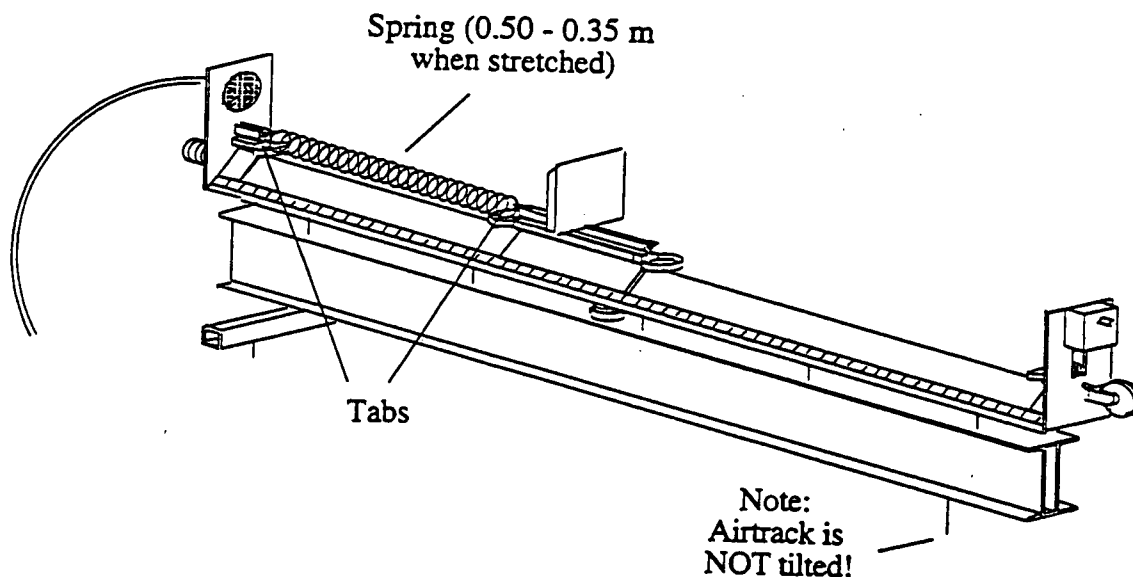

Figure 4: Set-up for Part IIIb
1. When you are finished collecting data for the determination of the spring constant, remove the string, mass hook, and weights from the glider. Move the glider slowly to stretch the spring until the spring is roughly 30 - 50 cm from the edge of the air track (see Figure 4) and get ready to take data. Here the goal is to acquire  $x$  vs.  $t$  and  $v$  vs.  $t$  data which includes the motion of the glider from the time it is released to when it hits the endpost or bumper at the end of the track. To acquire data, just proceed as you did with the hanging mass in Part II.